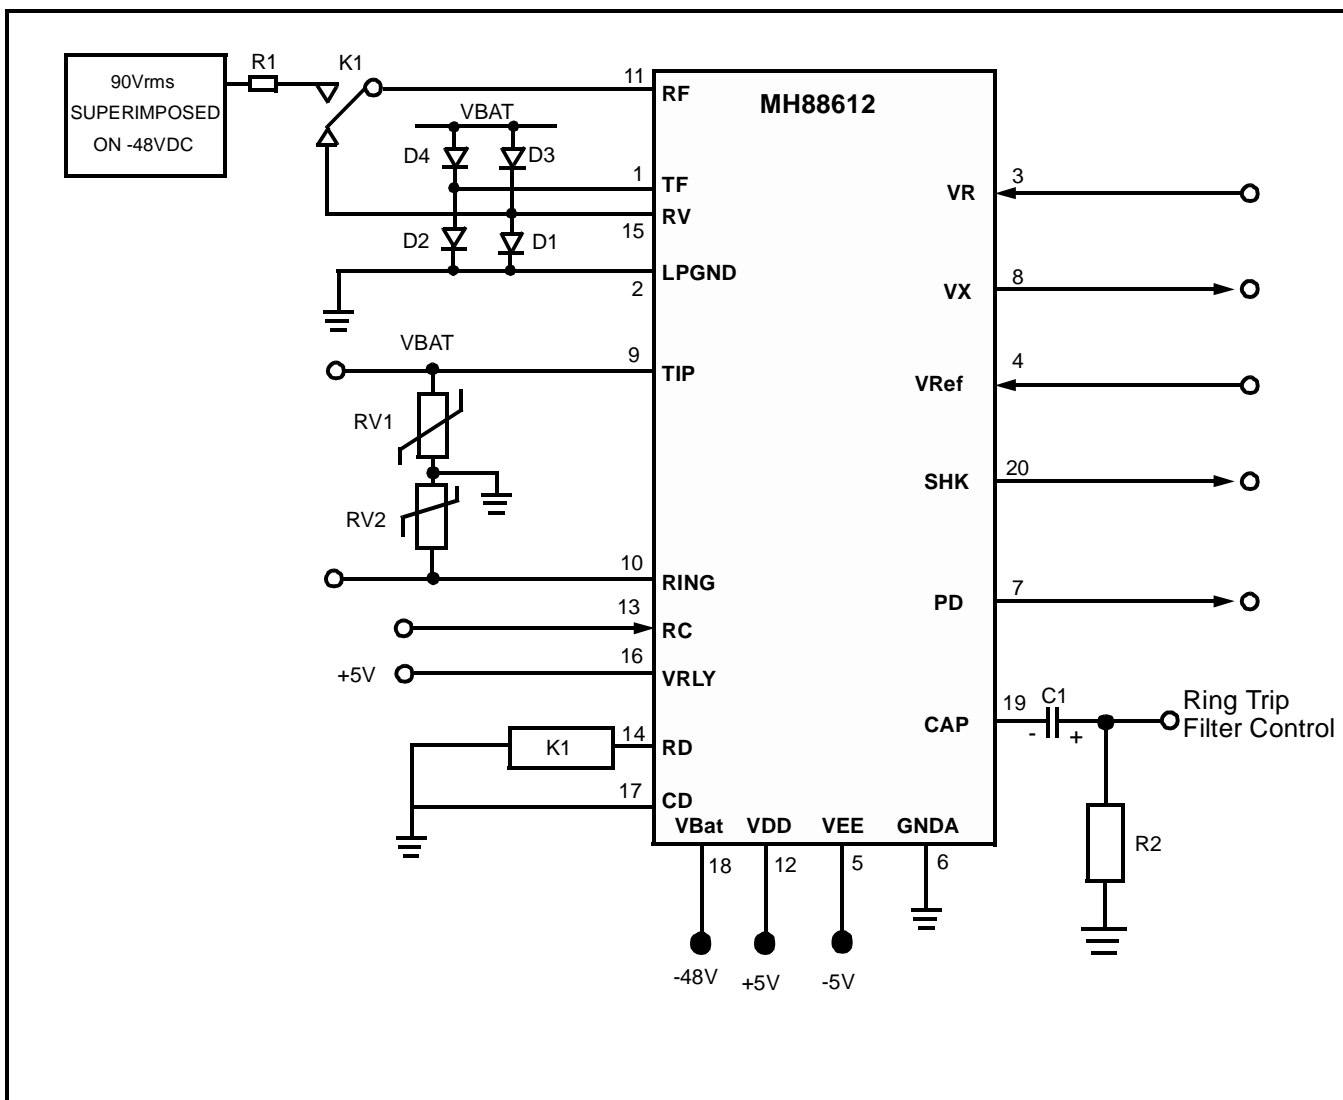

Figure 3 - Application Circuit
In Figure 3 a ringing signal (e.g. 90 Vrms=+/-48Vdc) is applied to the line by disconnecting pin 15 (RV) from pin 11 (RF), and connecting the ringing voltage at pin 11 (RF) by use of the relay K1.